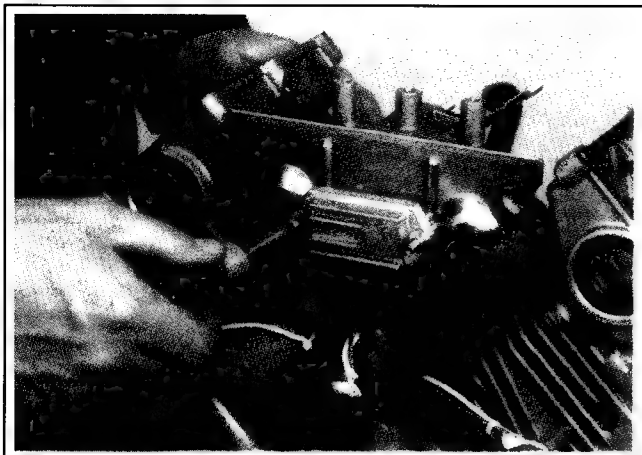

Figure 11-25. Rectifier-Regulator Installed On Valley Baffle.
2. Secure rectifier-regulator to valley baffle with two screws. See Figure 11-25.